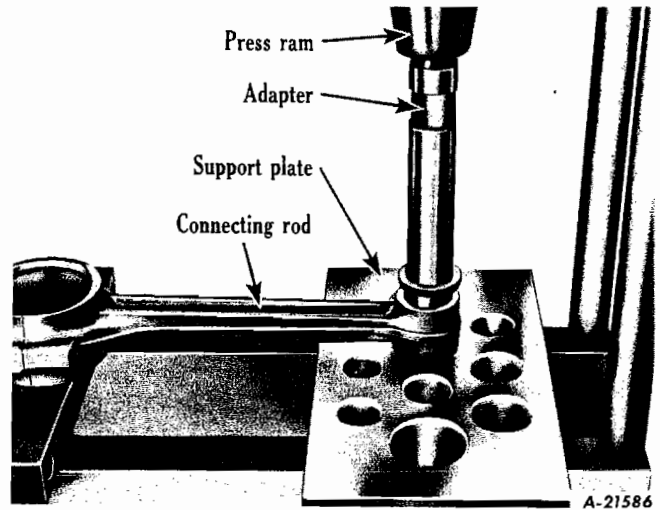
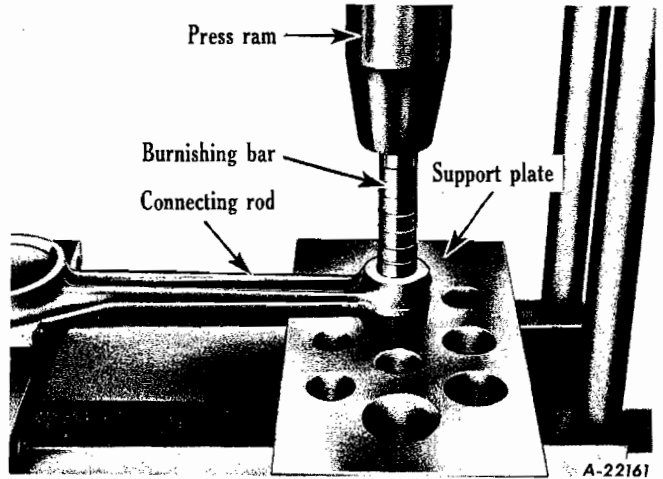
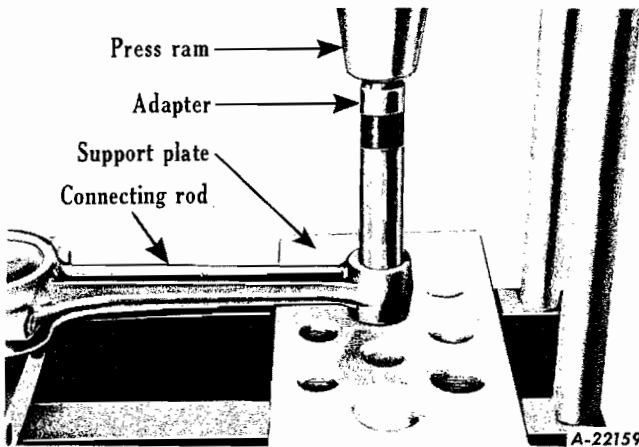

Fig. 55 - Installing new bushing in rod.
Fig. 56 - Use SE-879 Burnishing tool.
Fig. 54 - Press bushing from rod using SE-1036-4 Bushing adapter and SE-1033 support plate.
7. With properly fitting adapter, press old piston-pin bushing from connecting rod (Fig. 54). Place new piston-pin bushing in position, align oil hole in bushing with oil hole in connecting rod, install bushing with a .0055" to .0035" press fit (Fig. 55). Burnish bushing into place in the connecting rod (Fig. 56).